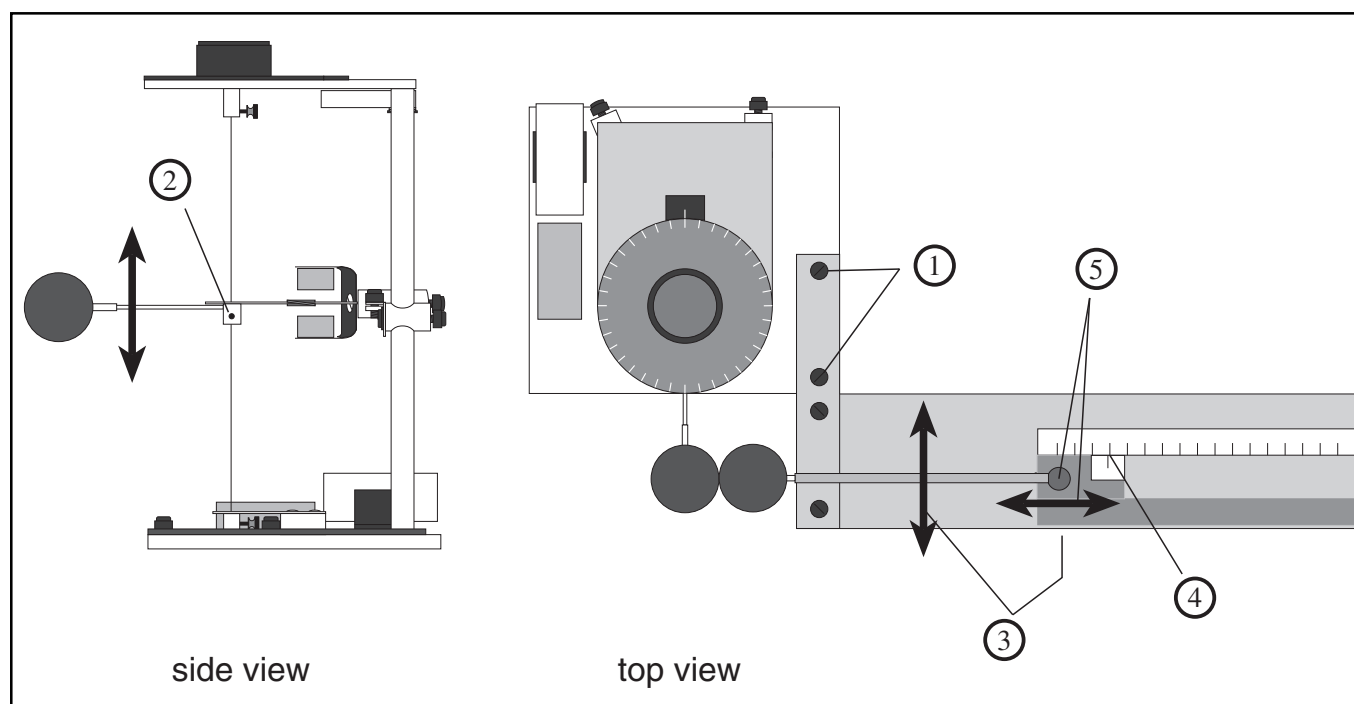

Figure 5. Slide Assembly Setup
(Refer to Figure 5)
- ① Connect the slide assembly to the torsion balance as shown in Figure 5, using the coupling plate and thumbscrews to secure it in position.
- ② Align the spheres vertically by adjusting the height of the pendulum assembly so the spheres are aligned: Use the supplied allen wrench to loosen the screw that anchors the pendulum assembly to the torsion wire. Adjust the height of the pendulum assembly as needed.